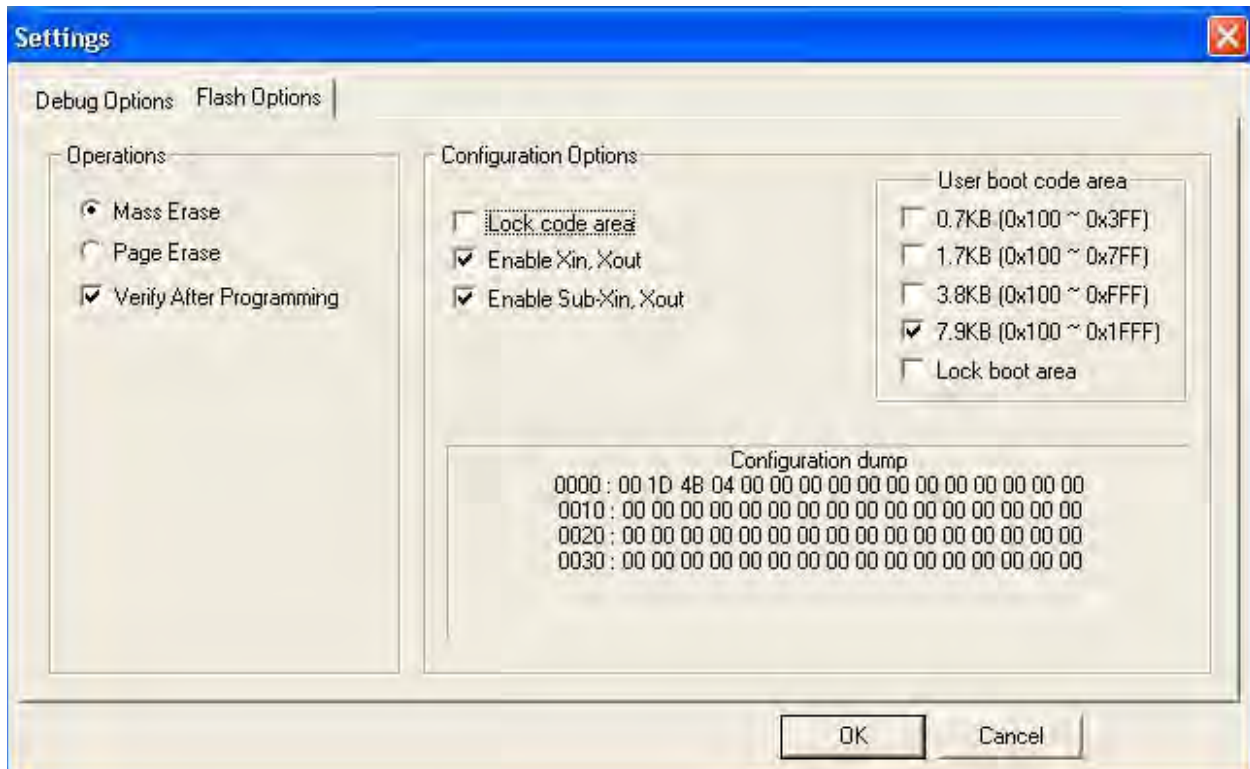

Figure 26. Configuring the Flash Options
8. Click the **Flash Options** tab. The Flash Options Settings dialog will appear, as shown in Figure 26. To select the proper options for Flash programming, refer to the Z51F6412 Product Specification \(PS0303\).